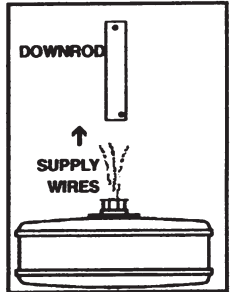

FIG. 8
**Step 4.** Carefully feed fan wires up through the downrod. (Fig. 8) Thread the rod into the coupling, next line up holes, then replace lock pin and hitch pin. Tighten set screws.